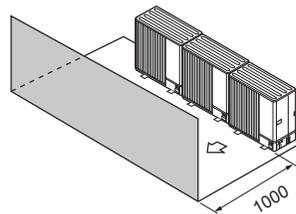

Fig. 2-17
- (3) Obstruction or closed surface at front only (Fig. 2-17)